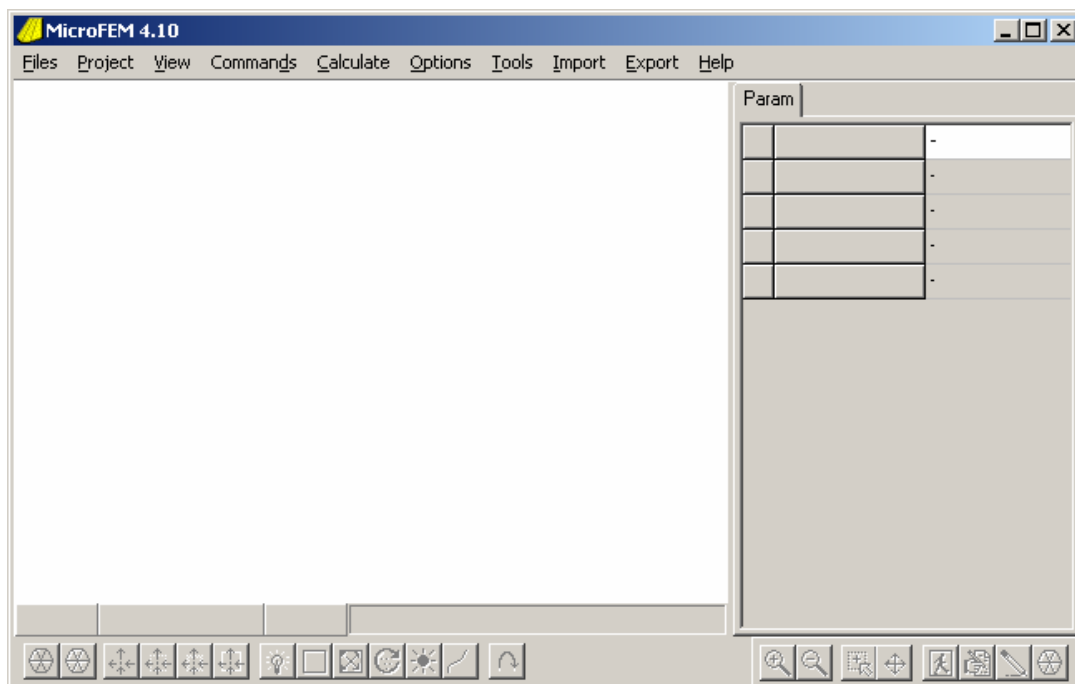

Figure 3: Empty MicroFEM window
First a banner appears (note the version number on the banner) and after a while you will see the following screen picture (Figure 3).
-  Can be used for erasing all entered network data from MicroFEM and returning to the empty MicroFEM window as in Figure 3.